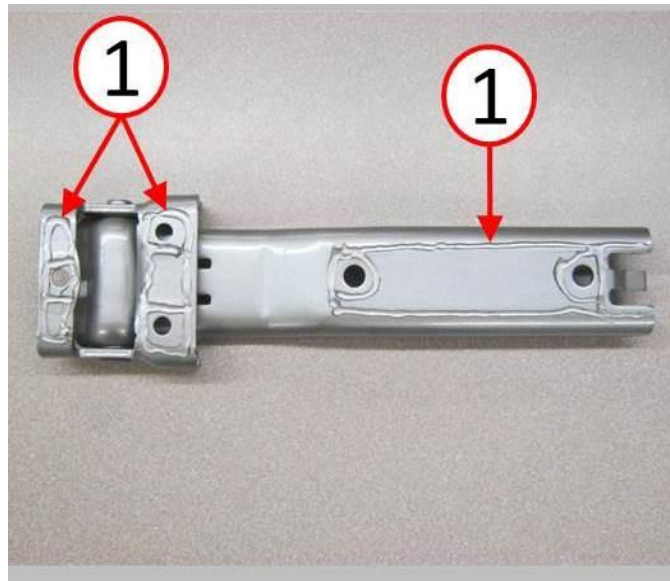
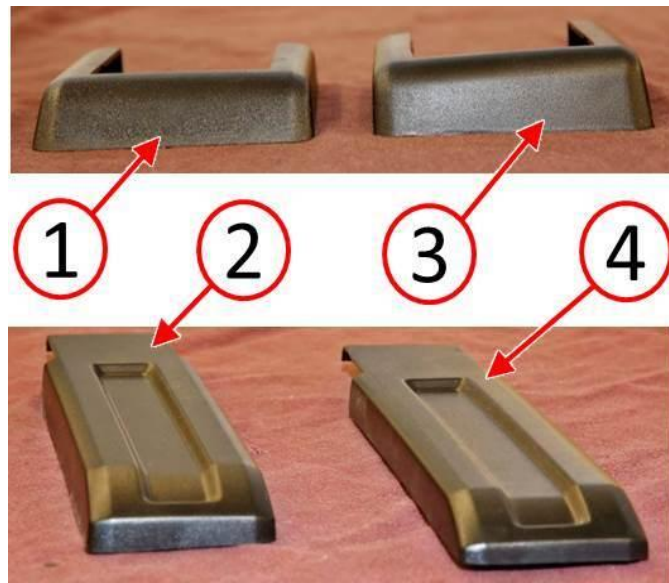

**Fig. 2 Tailgate Hinges**
***Fig. 3 Tailgate Hinge Body Sealer Application***
4. Replace both tailgate hinges one at a time. First remove the tailgate side hinge bolts (1) then the body side hinge bolts (2), reverse order for installation (Fig. 2). Apply body sealant per manufacturer's directions to the back surface of the hinge where it makes contact with the vehicle to prevent corrosion (Fig. 3). Refer to the detailed repair procedures available in: DealerConnect> TechCONNECT under: Service Info> 23 - Body> Decklid/Hatch/Liftgate/Tailgate> HINGE> Removal / Installation.